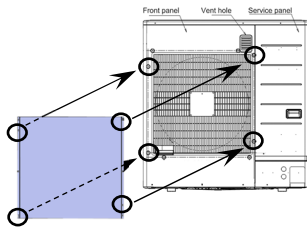

Figure 1
(1) Using the 4 holes of wind baffle flanges and 4 holes of unit as shown in Figure 1. Make sure that the wind baffle does not cover the service panel.